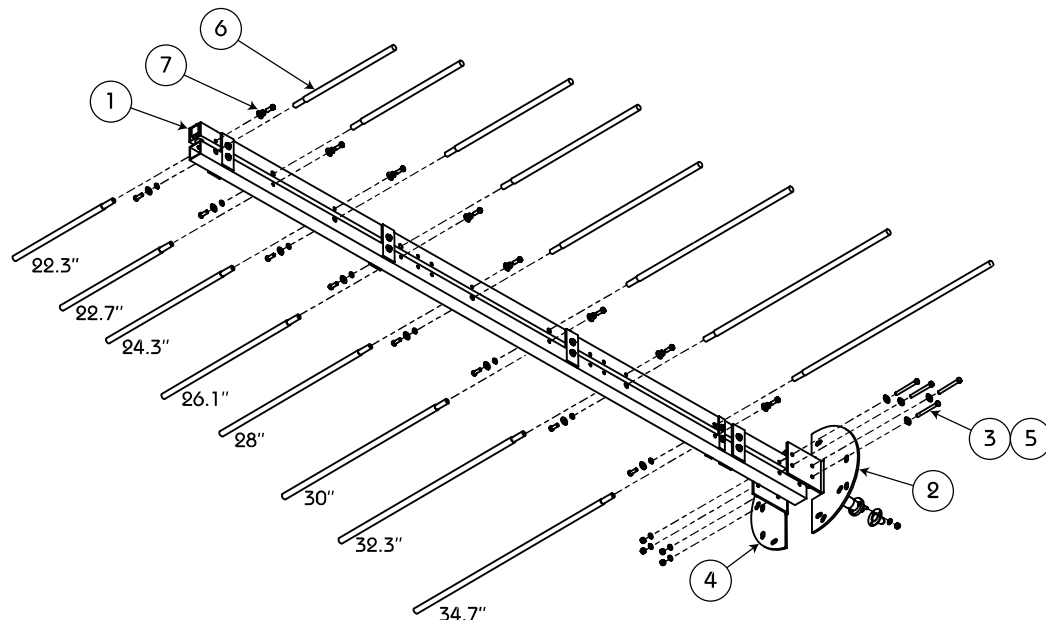

Figure 1. Attach the antenna arms and mounting plates [steps c(1) - (2)]
- Using the 5/16" hardware (7), attach the antenna arms (6) to the sides of the booms (1) as shown in Figure 1. Note that the arm lengths are different lengths - be sure to locate them with the longest nearest the base of the boom assembly as shown.